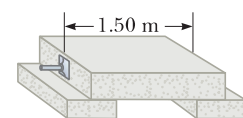

Figure P12.40
40. The lintel of prestressed reinforced concrete in Figure P12.40 is 1.50 m long. The concrete encloses one steel reinforcing rod with cross-sectional area 1.50 cm^2 . The rod joins two strong end plates. The cross-sectional area of the concrete perpendicular to the rod is 50.0 cm^2 . Young's modulus for the concrete is $30.0 \times 10^9 \text{ N/m}^2$. After the concrete cures and the original tension T_1 in the rod is released, the concrete is to be under compressive stress $8.00 \times 10^6 \text{ N/m}^2$. (a) By what distance will the rod compress the concrete when the original tension in the rod is released? (b) What